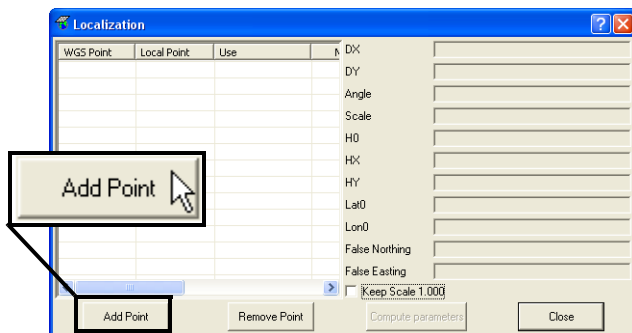

Figure 6-38. Add Point to Localize
2. Click **Process ► Localization** or press **Shift+F8** to open the *Localization* dialog box. Click **Add Point** (Figure 6-38).